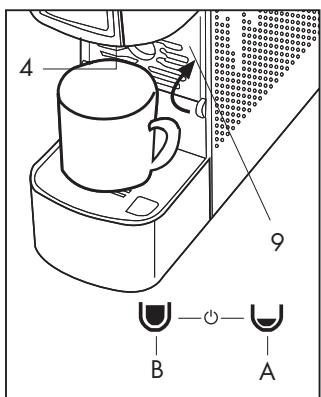

Fig. 5
The machine is rinsed when at least 3 glasses of water have been dispensed. (**Fig. 5**)
To use large cups, close the support (9) and place the cup directly on the grid of the drip tray (5) (**Fig. 5**)